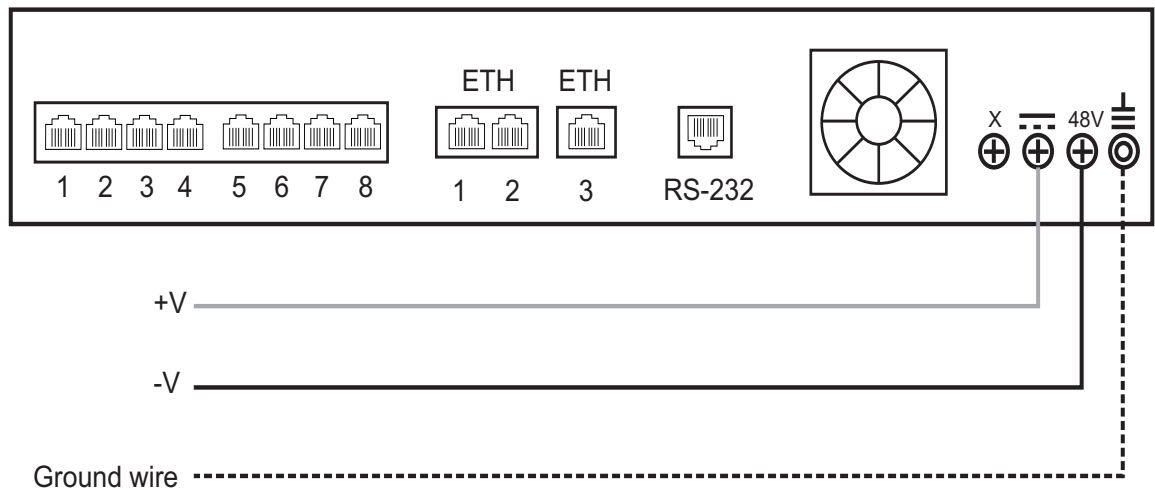

Figure 2.10 TMP800 DC wiring diagram
1. Connect a ground wire to the ground lug located at the rear of the TMP800, as shown in Figure 2.10 on page 18.